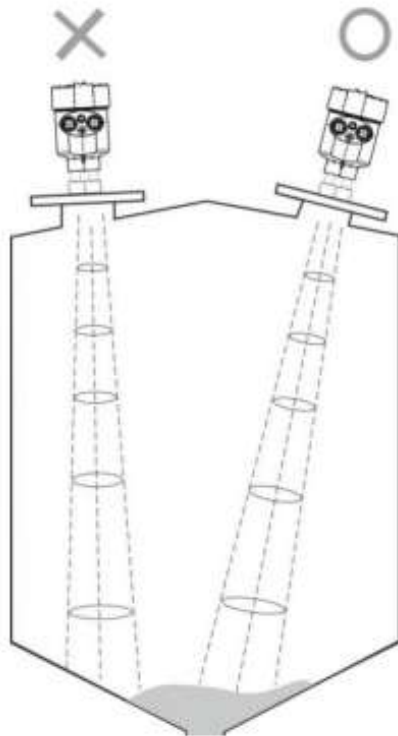

Figure 4-4 Aim Beam at the Bottom of a Conical Vessel
- ***For conical containers, ensure that the beam is directed straight toward the bottom of the tank; otherwise, the measurement at the bottom may be inaccurate, as shown in Figure 4-4.***